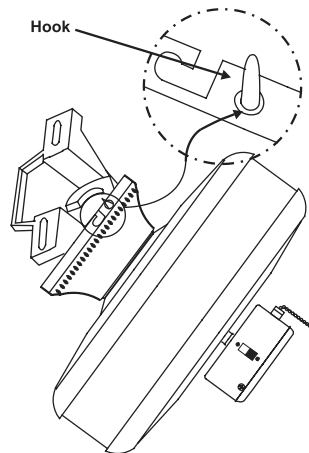

Fig.10
6. Hang the fan on the hook of the hanger bracket. Be certain that the canopy is fully locked into hook as shown in (Fig.10). This will allow you to make the electrical connections.